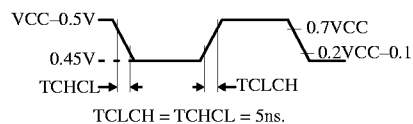

Figure 13 Clock Signal Waveform for ICC Tests in Active and Idle Modes
- Operating I_{CC} is measured with all output pins disconnected; XTAL1 driven with TCLCH, TCHCL = 5 ns (see Figure 13), V_{IL} = V_{SS} + 0.5V, V_{IH} = V_{CC} - 0.5V; XTAL2 N.C.; $\overline{\text{EA}}$ = RST = Port 0 = V_{CC}. I_{CC} would be slightly higher if a crystal oscillator used (see NO TAG).